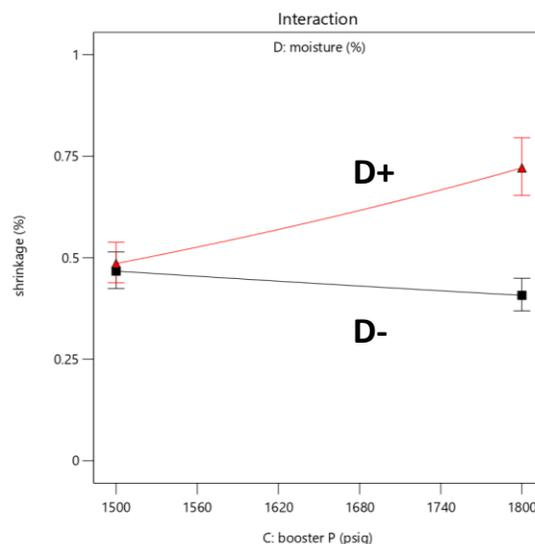

Figure 2: Interaction Plot for CD Effect on Shrinkage
In the injection molding case, the results of the experiment revealed a significant interaction between booster pressure and moisture (CD). The interaction is not aliased with any other 2-factor interactions, so it's a clear result. As shown by the flat line on Figure 2, shrinkage will be stabilized by keeping moisture low (D-). This is known as a robust operating condition.